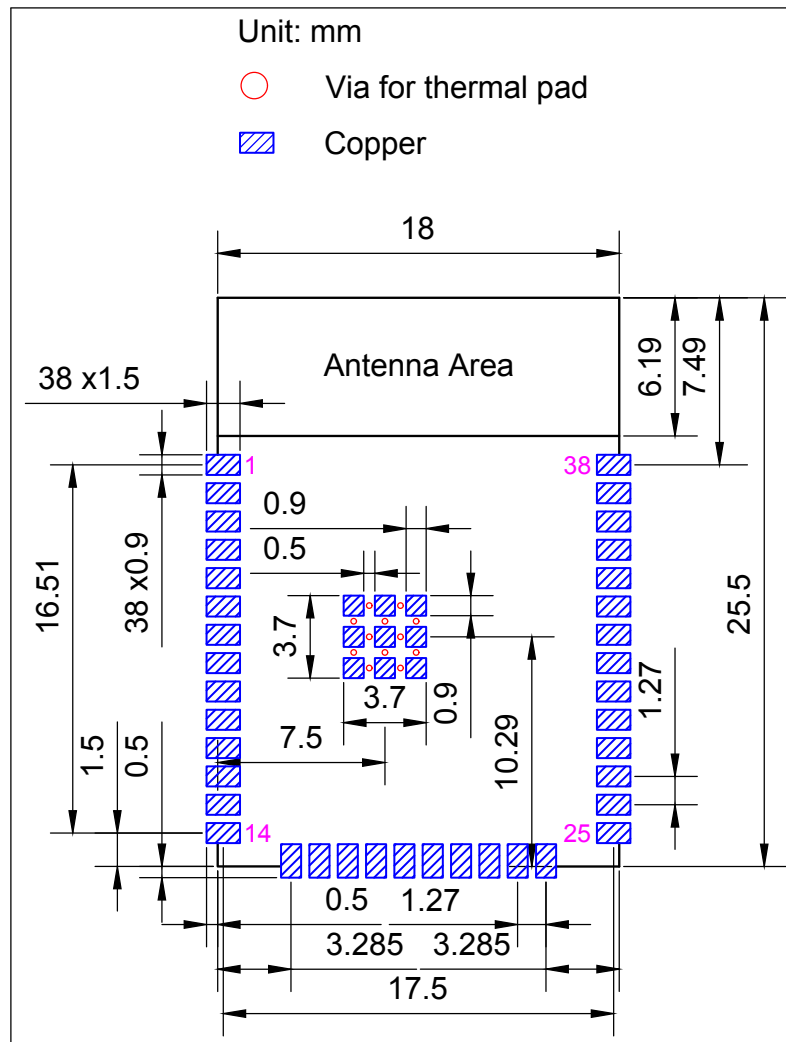
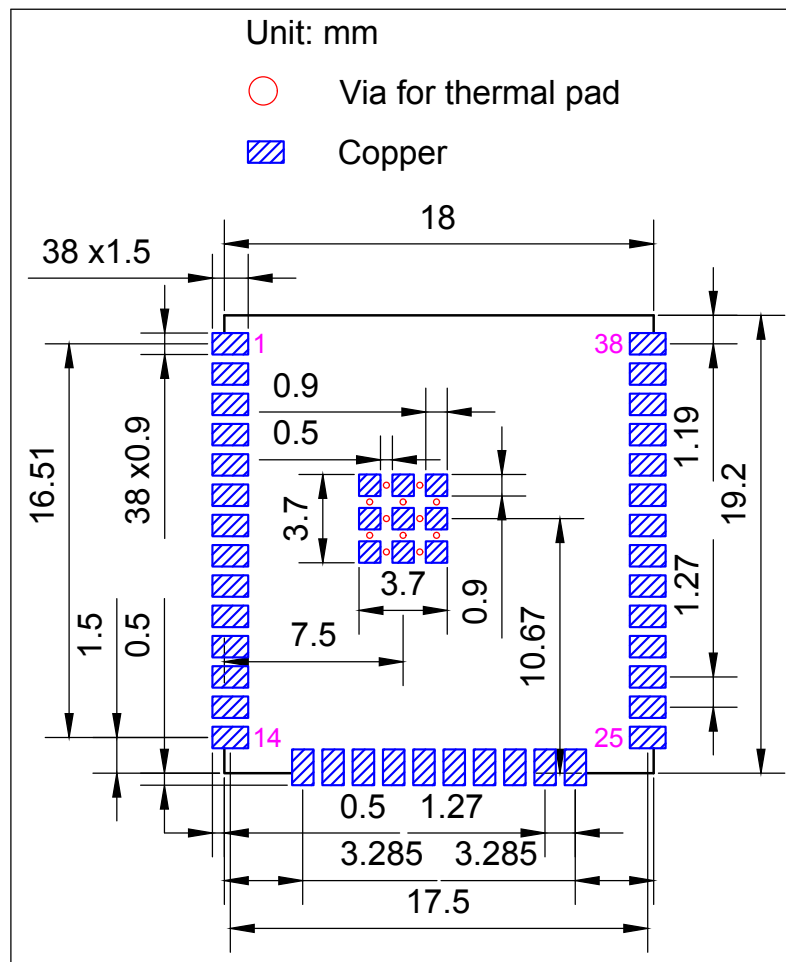

Figure 12: ESP32-WROOM-32E Recommended PCB Land Pattern
Figure 13: ESP32-WROOM-32UE Recommended PCB Land Pattern
- Figures for recommended PCB land patterns with all the dimensions needed for PCB design. See Figure 12 *ESP32-WROOM-32E Recommended PCB Land Pattern* and Figure 13 *ESP32-WROOM-32UE Recommended PCB Land Pattern*.
- Source files of recommended PCB land patterns to measure dimensions not covered in Figure 12 and Figure 13. You can view the source files for ESP32-WROOM-32E and ESP32-WROOM-32UE with Autodesk Viewer.